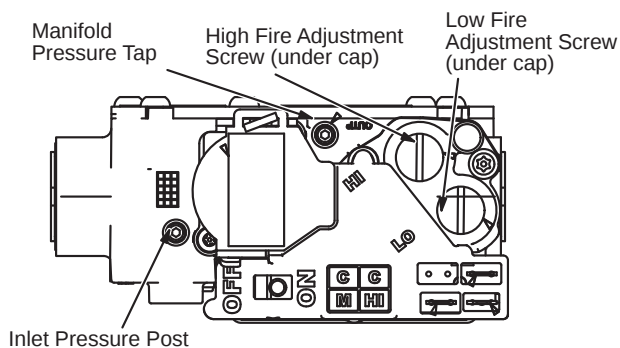

Figure 17. White Rodgers Gas Valve (Gas Valve Shown in ON Position)
- 6 - Turn switch on gas valve to **OFF**. Do not force. See **Figure 17**.
- 4 - Turn switch on gas valve to **OFF**. Do not force. See **Figure 17**.
An inlet post located on the gas valve provides access to the supply pressure. See **Figure 17**. Back out the 3/32 hex screw one turn, connect a piece of 5/16 tubing and connect to a manometer to measure supply pressure. See **Table 16** for supply line pressure.
- 1 - Connect test gauge to manifold pressure tap (**Figure 17**) on gas valve.
- 4 - If necessary, make adjustments. **Figure 17** shows location of high fire and low fire adjustment screw.